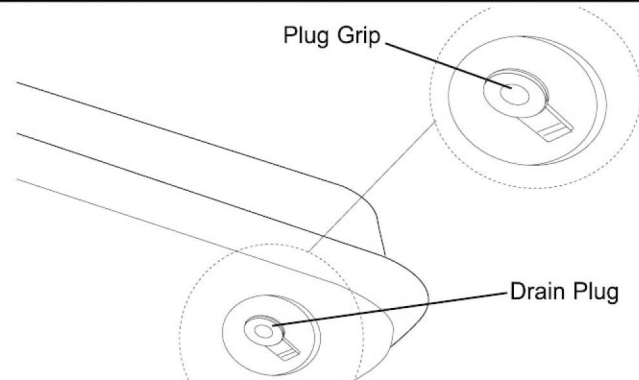

Figure 10. Drain Plug Removal
2. To remove the Drain Plug (125/175/215), pull the Plug Grip downward and remove seal head from drain hole in tank (See Figure 10).